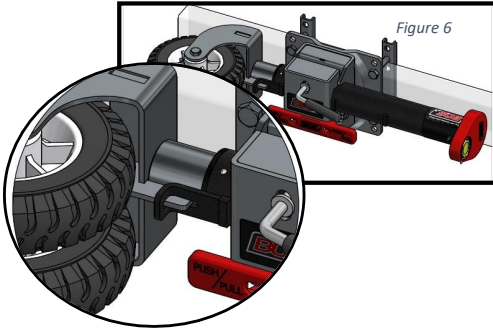

Figure 6
- Below (Figure 6) shows the locking of the wheel, swing away units